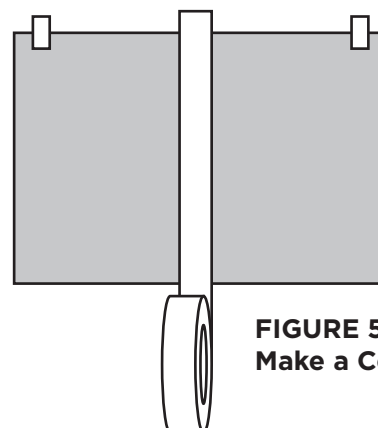

FIGURE 5
3. Applying two layers of masking tape, 1 or 2 inch wide, through the center of the graphic to make a hinge. The hinge should be perpendicular (at right angles) to the longest distance. See FIGURE 5.